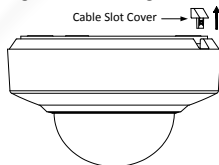

Figure 2-32 For DE2xxx Series PTZ Camera
3. Drill a cable hole in the ceiling according to the circle A on the template if you want to route the cables through the ceiling. Pull out the cable slot cover if you want to route the cables on the surface of the ceiling, as shown in Figure 2-32.